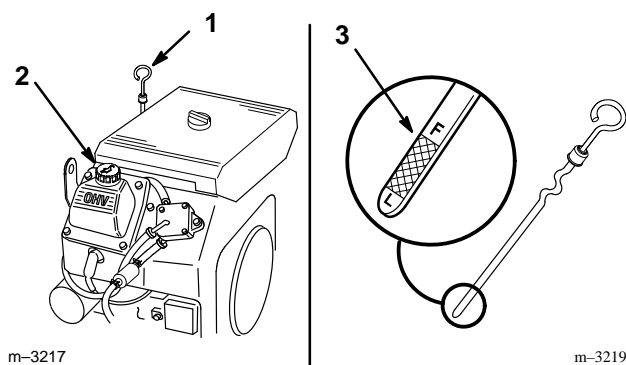

Figure 26
2. Clean around the oil dipstick (Fig. 26) so dirt cannot fall into the filler hole and damage the engine.
3. Unscrew the oil dipstick and wipe the metal end clean (Fig. 26).
4. Slide the oil dipstick fully into the filler tube, but do not thread onto tube (Fig. 26). Pull the dipstick out and look at the metal end. If oil level is low, slowly pour only enough oil into the filler tube to raise the level to the "FULL" mark.
5. Slowly pour approximately 80% of the specified amount of oil specified, page 36, into the filler tube (Fig. 26). Now check the oil level; refer to Checking Oil Level, page 37. Slowly add additional oil to bring to "FULL" mark on dipstick.